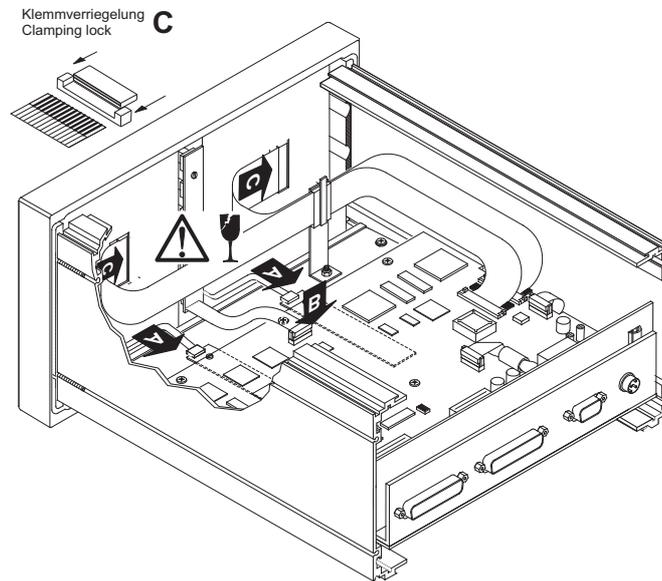

Fig. E 8-31: Reconnecting the connecting cables and the data cables
9. First connect the display connecting cables to their connector on the inverter pcb (see Fig. E 8-31, A). Then connect the key pad data cable to the locker on the upper side of the main pcb (see Fig. E 8-31, B). At last connect the flat cables to the clamping locks on each display (see Fig. E 8-31, C). Avoid damage of the cables because of canting.